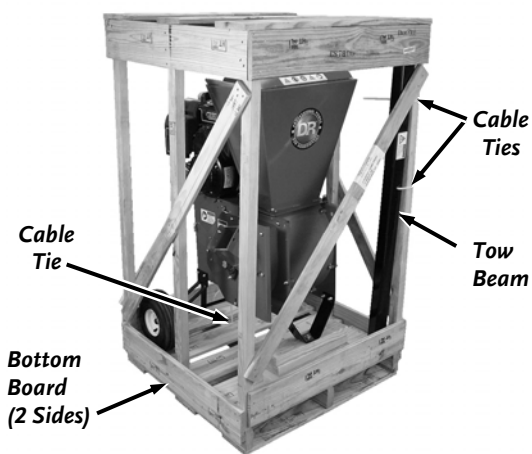

Figure 3
1. Cut the Cable Ties that are securing the Tow Beam to the Crate and remove the Tow Beam (**Figure 3**).